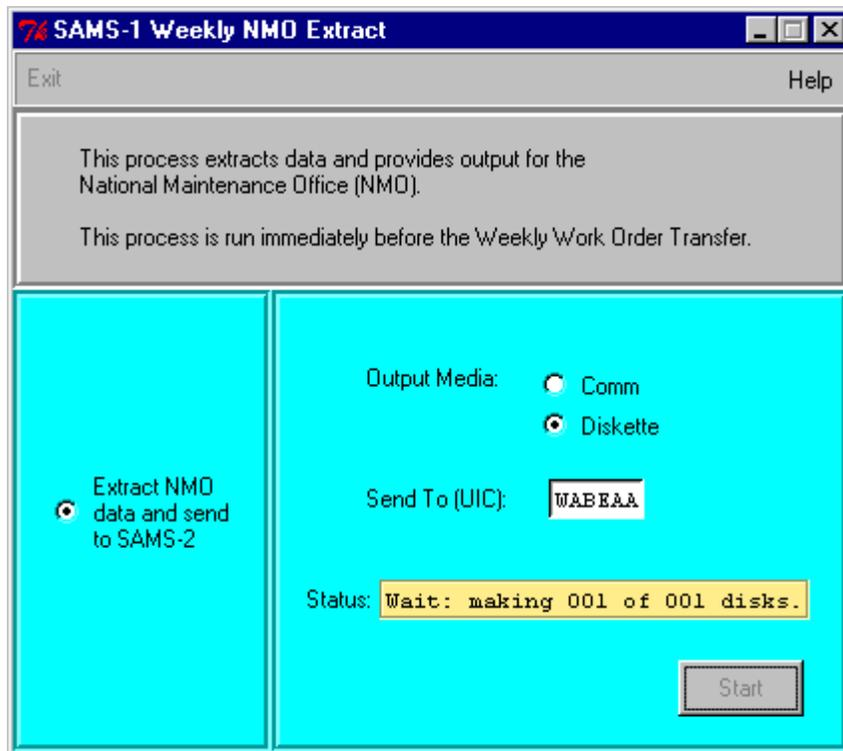
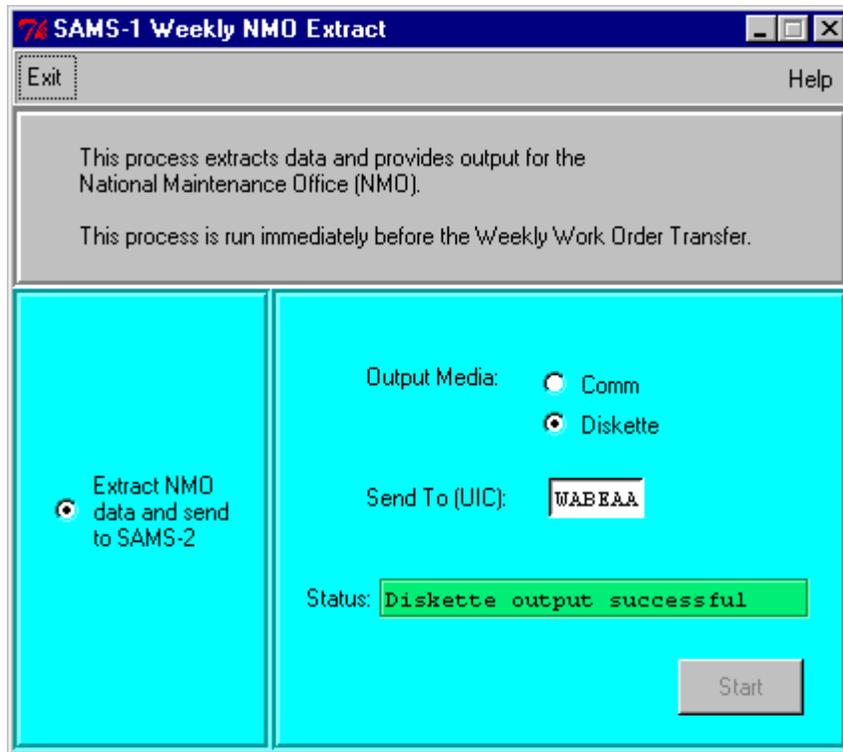

FIGURE 7, Extracting data and making disk(s).
FIGURE 8, Diskette Output successful.
10. In the status area of the window the user will observe messages “Extracting Data”; and “Creating the AHN4CD temp files . . .” Other status messages he will see as the data is written to the diskette(s) are FIGURE 7 and FIGURE 8, below: